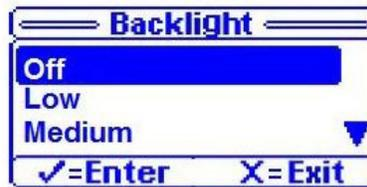

Figure 56 – Backlight
4. Select a backlight intensity (Figure 56).